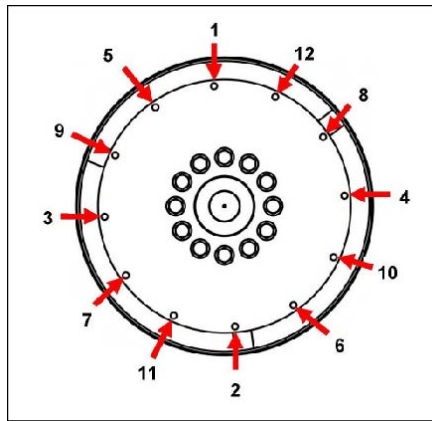

FIGURE 19. FIXING SEQUENCE
10. Remove the alignment dowels. Fit the coupling bolts, using heavy gauge washers under the heads. Tighten the bolts to fix the coupling disc to the flywheel, in the sequence shown in Figure 19 on page 31.